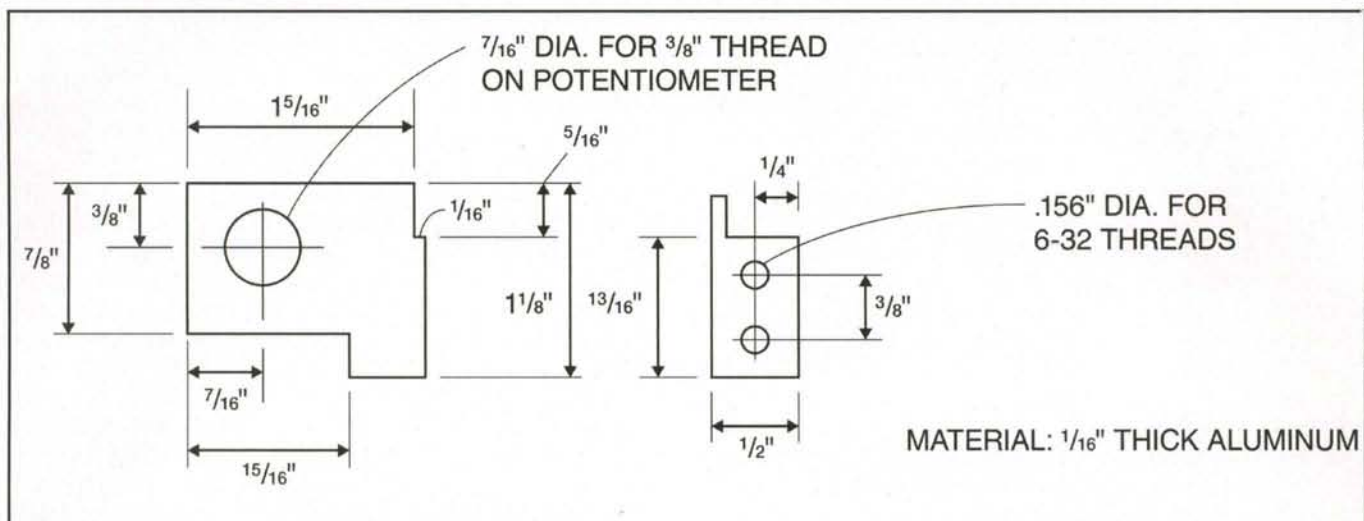

Figure 7. EL rotator potentiometer bracket dimensions.
4. Fabricate a bracket from  $1/16$ " thick aluminum as shown in figure 7.